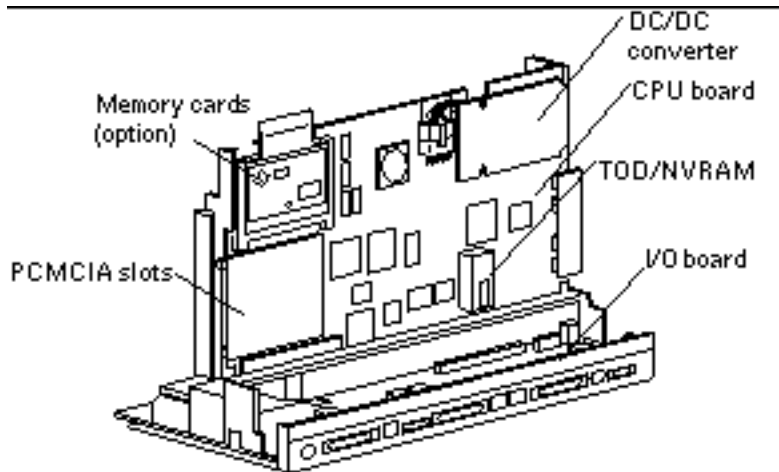

Figure 1-4 Rear View—Internal
- Figure 1-4 shows the internal rear view